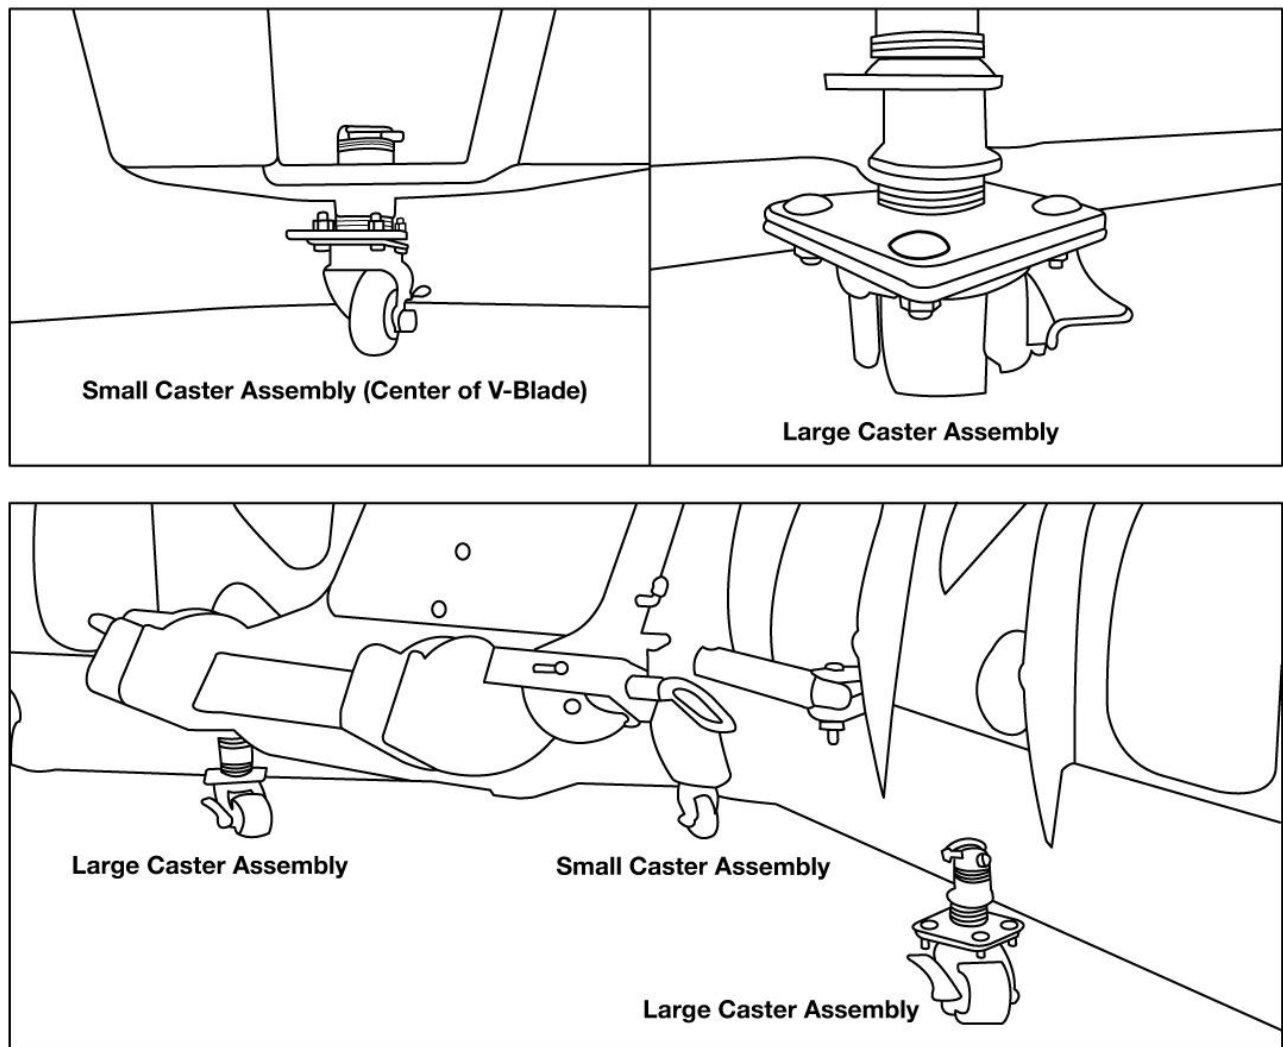

Figure 2. Caster Kit, V-Blade Casters Shown Installed on a V-Blade
2. Remove any plow shoes and store. Install the two large 3.25" caster assemblies in both shoe holders as shown in Fig. 2 upper right view (adjust washers as needed above/ below shoe holder). Be sure to lock them in with the quick pin.
3. Next using the small 3" caster assembly, install into center shoe holder as shown in Fig. 2 upper left view (adjust washers as needed above/ below shoe holder). Be sure to lock them in with the quick pin.